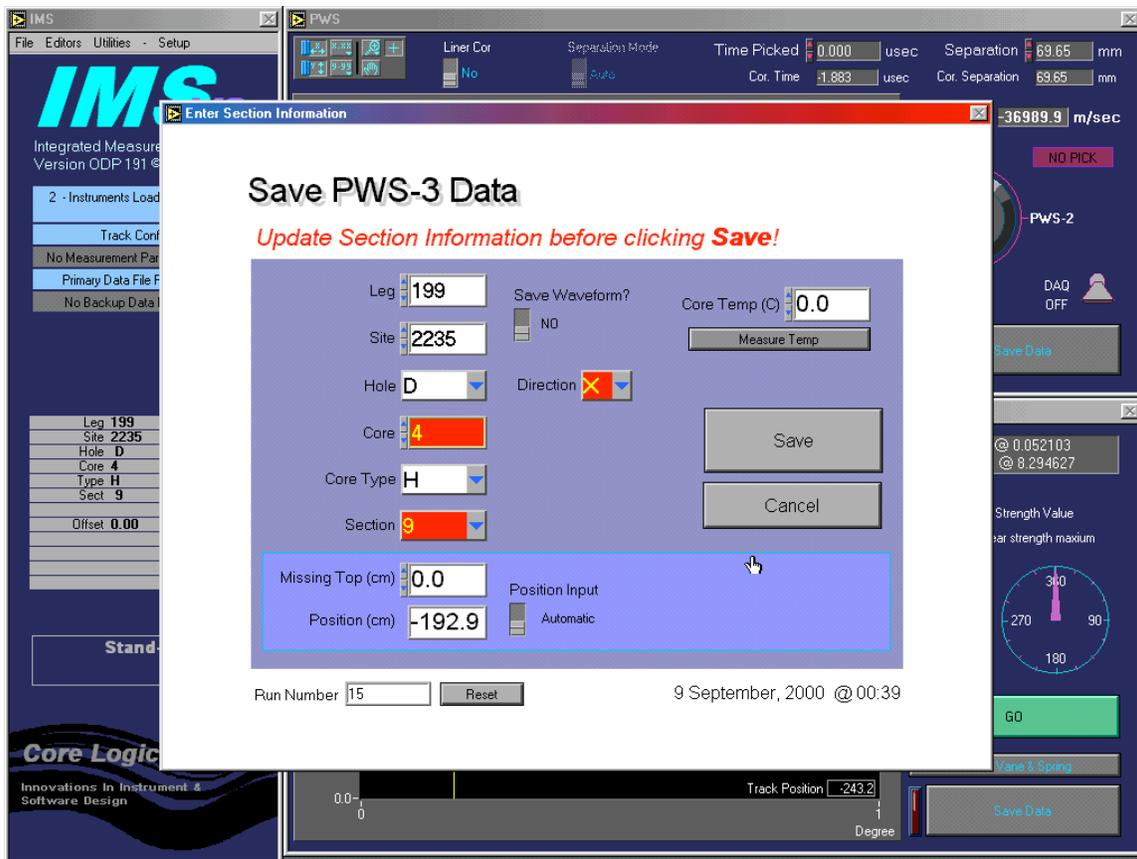

Figure 21. Saving data.
7. Click SAVE DATA to bring up the Save Data screen (Figure 21).
6. Click SAVE DATA to bring up the Save Data screen (Figure 21). See Section on saving data.
When you are satisfied with the waveform and velocity pick, click SAVE DATA to write the file. Double check the current leg, site, and hole identifiers, the position, and enter the correct core, core type, and section on the Save Data screen (Figure 21). Click MEASURE TEMPERATURE or enter temperature manually. If you wish to save the waveform data, make sure that the SAVE WAVEFORM control is set to YES before clicking SAVE. For PWS3, select the correct direction. If you are measuring minicores or cubes with PWS3, toggle Position Input to User Input; another box will appear in the bottom right of the screen where you may enter the correct interval manually.